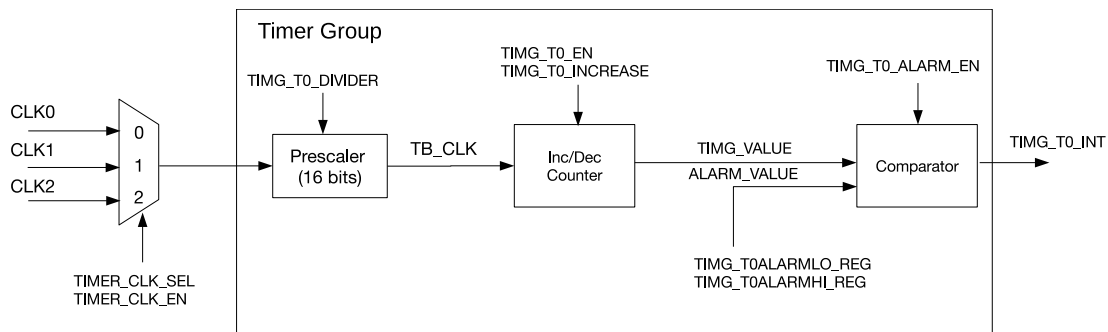

Figure 10.3-1. Timer Group Architecture
Figure 10.3-1 is a diagram of timer T0 in a timer group. T0 contains a 16-bit integer divider as a prescaler, a timer-based counter, and a comparator for alarm generation.
- The selected clock can be switched on by setting `PCR_TGO_TIMER_CLK_EN` field of the `PCR_TIMERGROUPO_TIMER_CLK_CONF_REG` register to 1 and switched off by setting it to 0. This field is indicated as `TIMER_CLK_EN` in Figure 10.3-1. The clock is then divided by a 16-bit prescaler to generate the time-base counter clock (TB_CLK) used by the time-base counter. The divisor of the prescaler can be configured through the `TIMG_T0_DIVIDER` field.